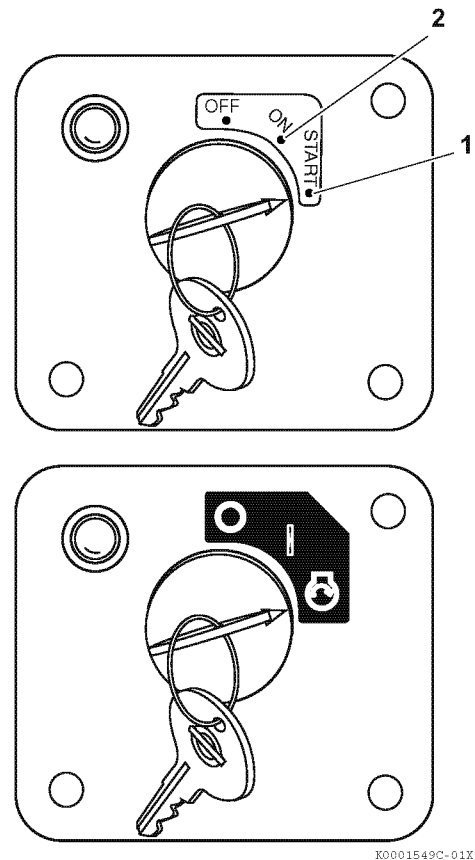

Figure 14
2. Turn the key clockwise to the START position (1, **Figure 14**). Release the key as soon as the engine starts. It will return to the ON position (2, **Figure 14**).